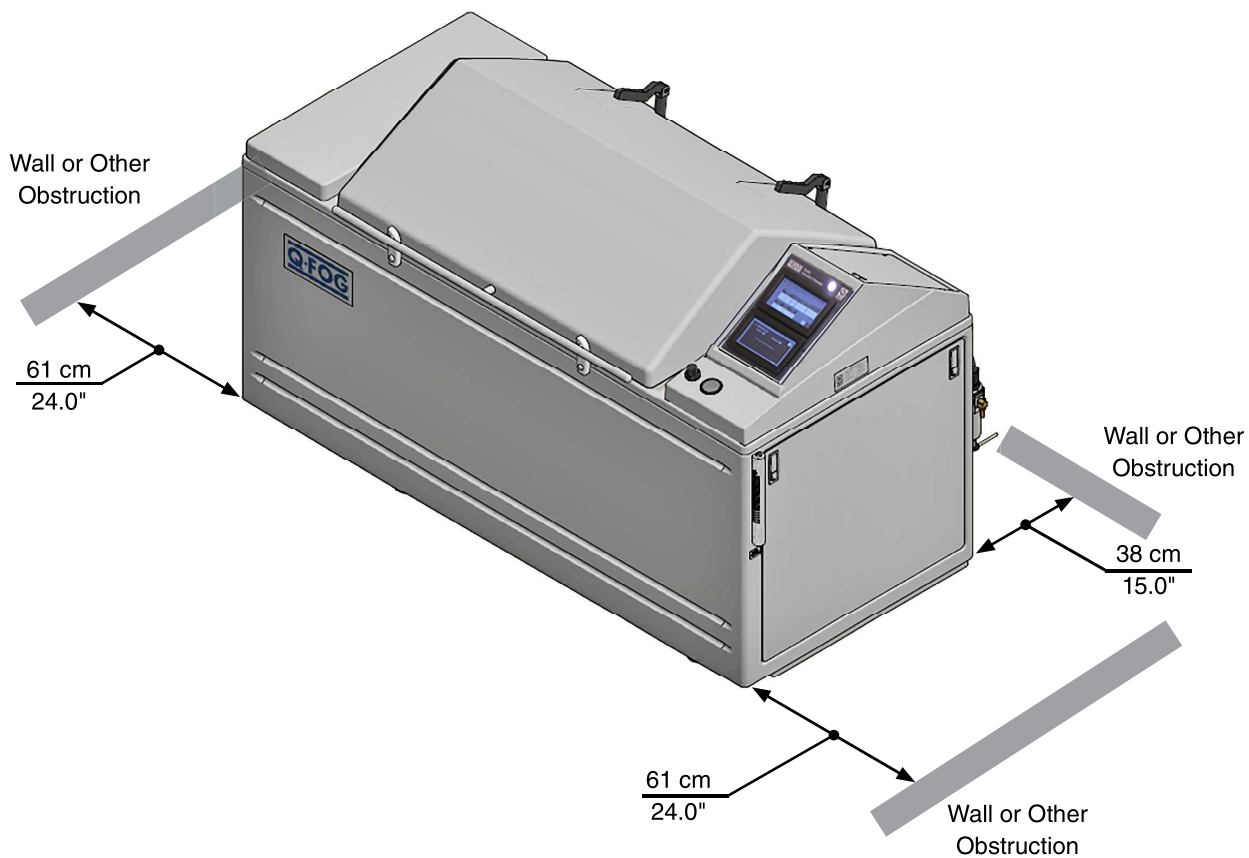

Figure 6.1b: Q-FOG installation space requirements.
- Installation location space requirements are shown in Figure 6.1b.
- The Q-FOG should be installed away from walls or other obstructions by the minimum distances shown in Figure 6.1b.